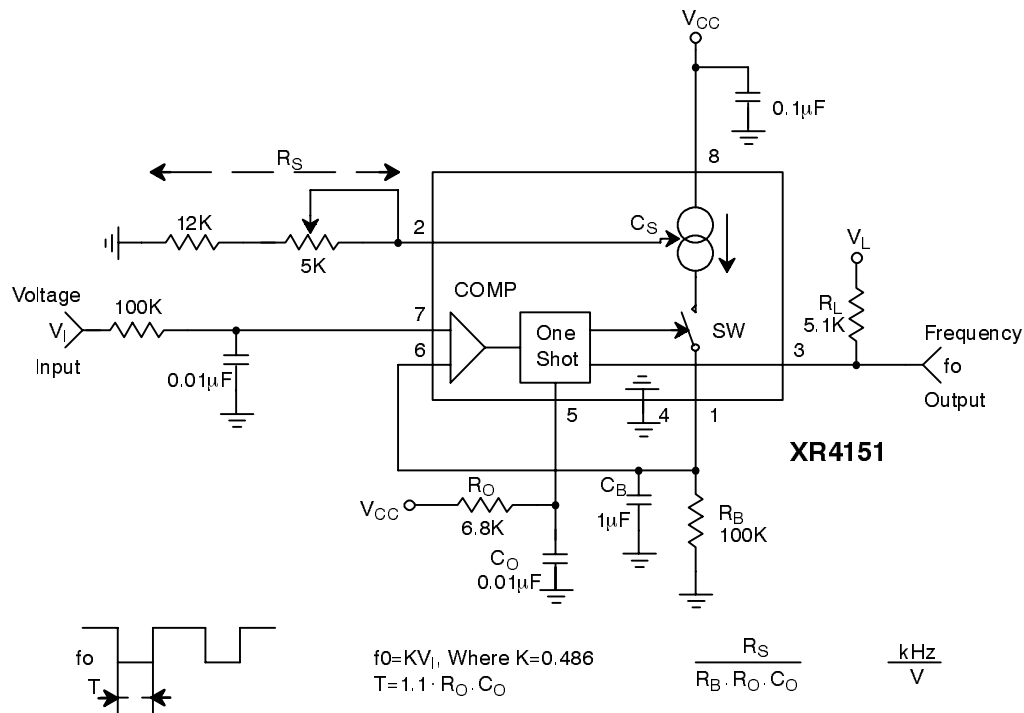
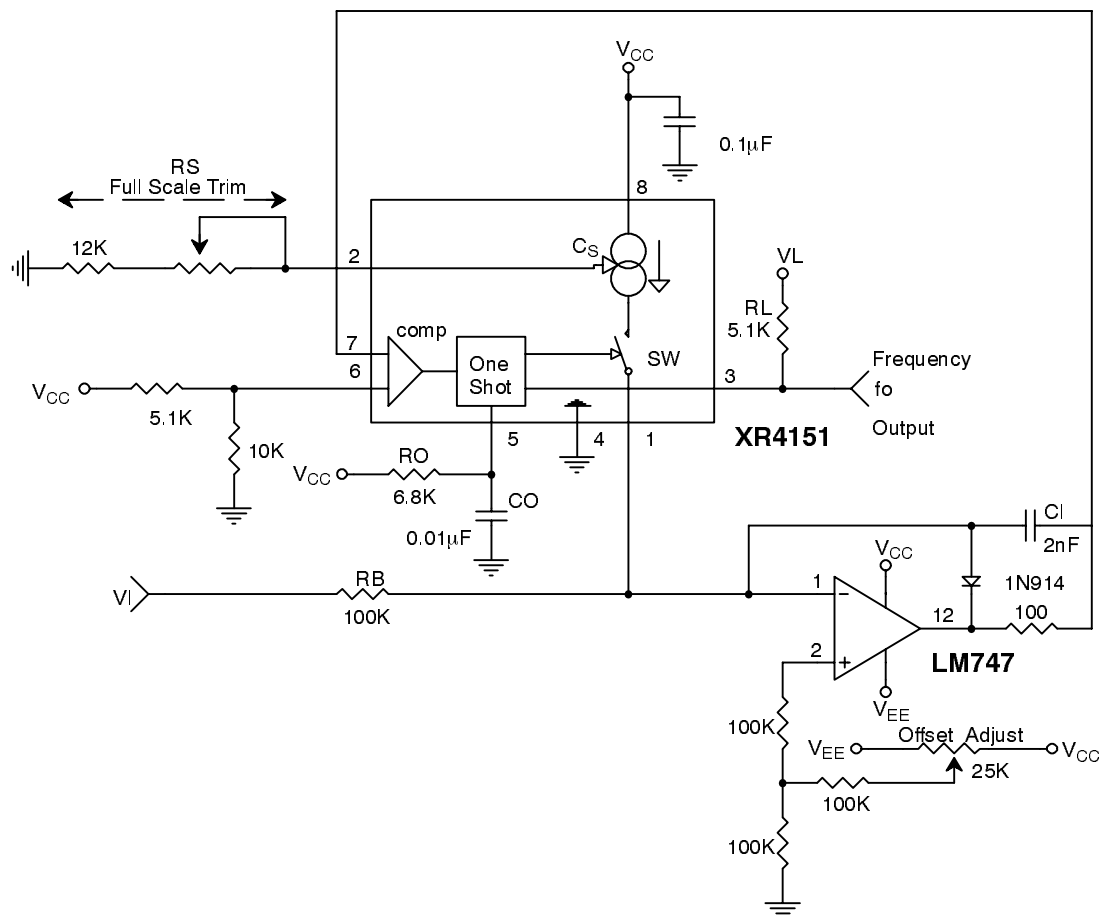

Figure 2. Voltage-to-Frequency Converter
Figure 3. Precision Voltage to Frequency Converter
In this application, the XR4151 functions as a stand alone voltage-to-frequency converter operating on a single positive power supply. Refer to the functional block diagram and *Figure 2*, the circuit connection for single supply voltage-to-frequency conversion. The XR-4151 contains a voltage comparator, a one-shot, and
Figure 2 shows the simplest type of VFC that can be made with the XR4151. The input voltage range is from 0 to +10V, and the output frequency is from 0 to 10kHz. The full scale frequency can be tuned by adjusting R_S , the output current set resistor. This circuit has the advantage of being simple and low in cost, but it suffers from inaccuracy due to a number of error sources. Linearity error is typically 1%. A frequency offset will also be
introduced by the input comparator offset voltage. Also, response time for this circuit is limited by the passive integration network $R_B C_B$. For the component values shown in Figure 2, response time for a step change input from 0 to +10V will be 135msec. For applications which require fast response time and high accuracy, use the circuit of Figure 3.
In this application (*Figure 3*) the XR4151 is used with an operational amplifier integrator to provide typical linearity of 0.05% over the range of 0 to -10V. Offset is adjustable to zero. Unlike many VFC designs which lose linearity below 10mV, this circuit retains linearity over the full range of input voltage, all the way to 0V.
The operational amplifier integrator improves linearity of this circuit over that of *Figure 2* by holding the output of the source, Pin 1, at a constant 0V. Therefore, the linearity
- Avoid stray coupling between pins 5 and 7; it could cause false triggering. For the circuit of *Figure 2*, bypass pin 7 to ground with at least $0.01\mu\text{F}$. This is necessary for operation above 10kHz.
1. Set $R_S = 14k\Omega$ or use a 12K resistor and 5K pot as shown in the figures. (The only exception to this is *Figure 3*).
3. a) For the circuit of *Figure 2* make $C_B = 10^{-2} [1/f_0]$ Farads.
4. a) For the circuit of *Figure 3* keep the values of R_B as shown and use an input attenuator to give the desired full scale input voltage.
b) For the precision mode circuit of *Figure 3*, set $R_B = V_{IO}/100\mu A$ where V_{IO} is the full scale input voltage.